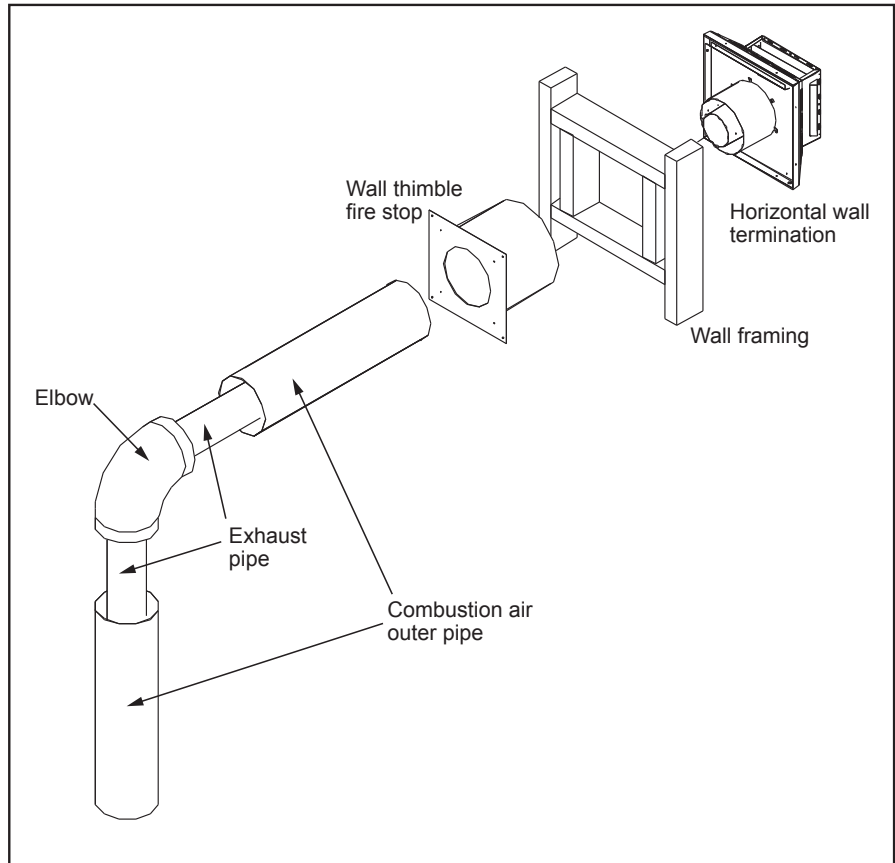

Figure 25. Horizontal Vent Termination
Step 3. With the pipe in the correct position and attached to the fireplace, mark the wall for a **10" (25.4 cm) x 10" (25.4 cm)** square hole (see Figure 25). The center of the hole should match the center line of the horizontal pipe. Cut and frame the hole in the exterior wall where the vent will be terminated. If the wall being penetrated is made of a non-combustible material (i.e. masonry or concrete) a **7" (17.8 cm)** hole is acceptable.